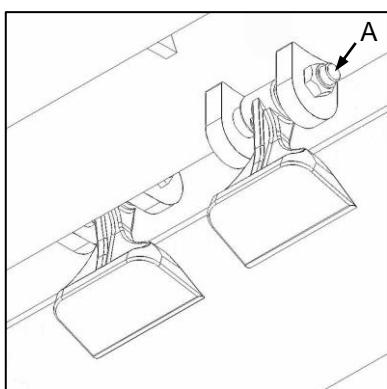
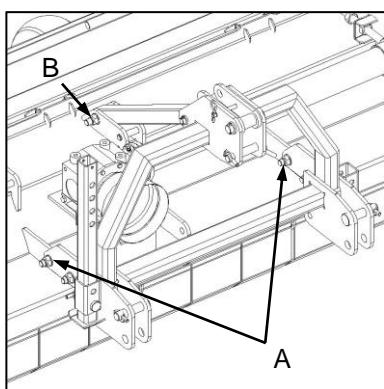
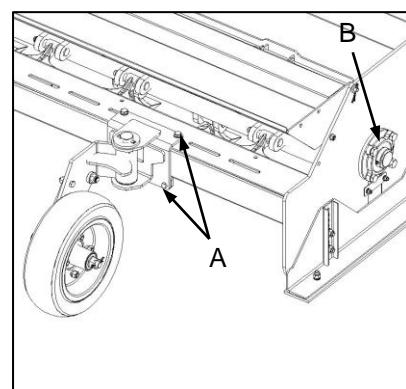

Fig. 4
Fig. 5
Fig. 6
- ✓** Check all fasteners for tightness. Pay special attention to safety-critical fasteners such as blade bolts and nuts (Fig. 4-A), hitch frame mounting bolts (Fig. 5-A / B), rotor mounting bolts (Fig. 6-A) and wheel mounting bolts (Fig. 6-B).